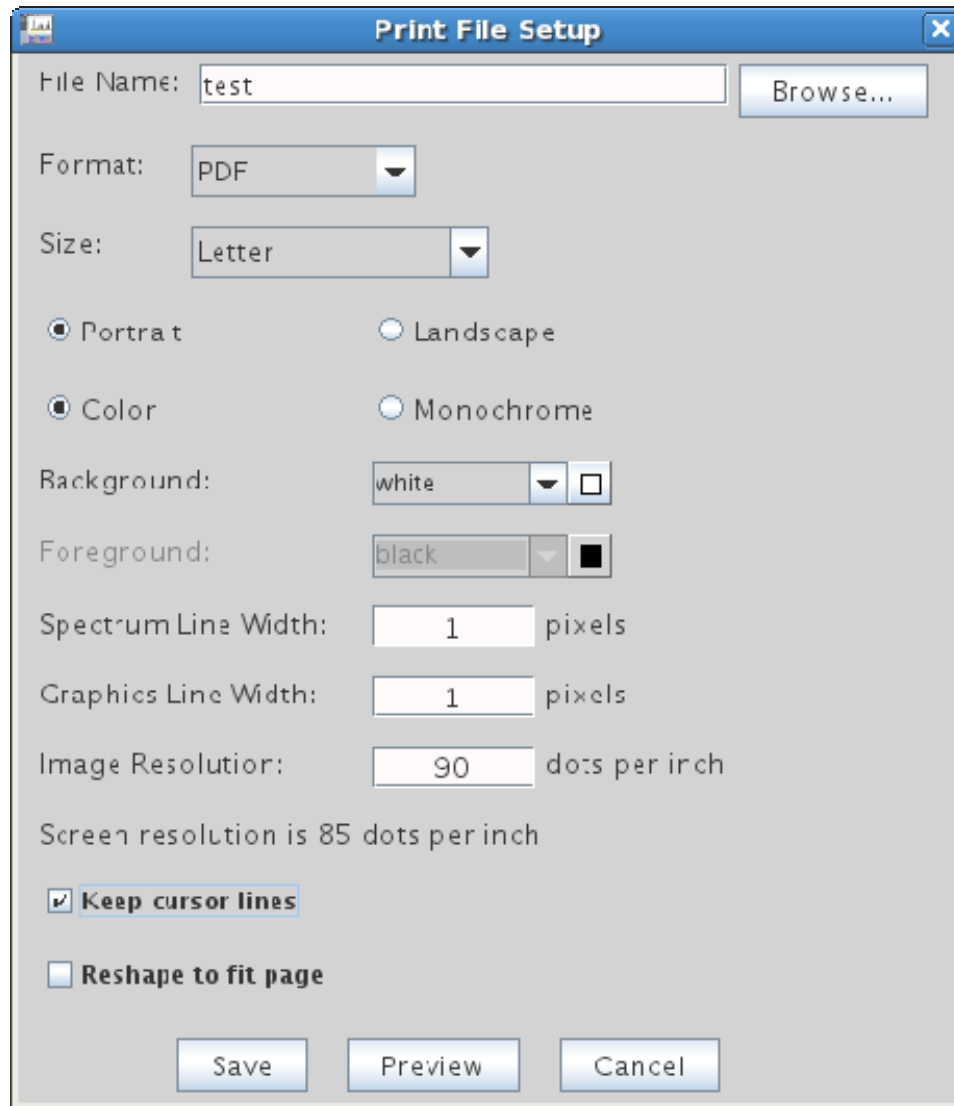

Figure 19 The Print File Setup
2. Figure 19 shows the pop-up that appears when the **Print to file** check box is selected and the **Print** button is clicked.